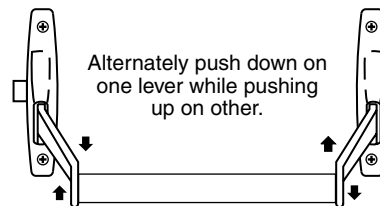

Figure 10
6. Rock crossbar to seat bar in lever by alternately pushing down on one lever while lifting on other. Rocking will assure alignment of two (2) tenon pins in lever holes. (Figure 10)